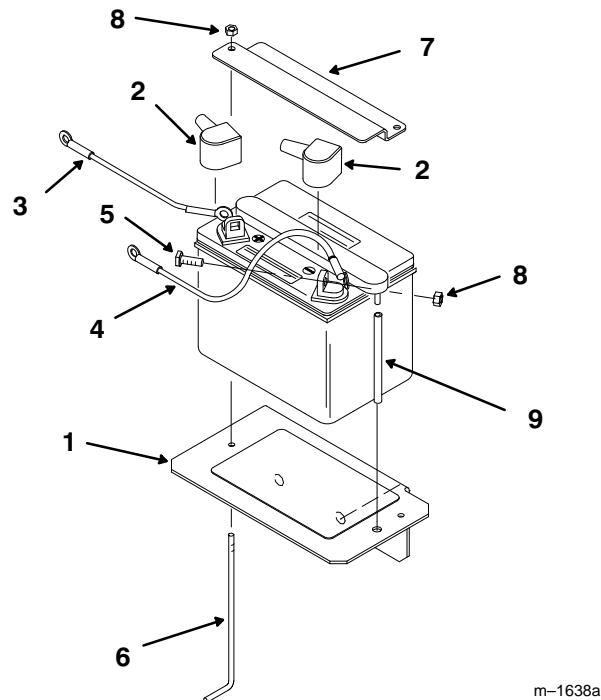

Figure 13
3. Position battery onto holder with terminal posts away from the engine (Fig. 13).
4. Slide the red terminal boot onto the red battery cable and the black terminal boot onto the black battery cable (Fig. 13).
5. Install the positive (red) battery cable to positive (+) battery terminal and the negative battery cable to the negative (-) battery terminal and secure with carriage bolts and locknuts (Fig. 13).
6. Mount battery to holder with (2) support rods, a battery clamp and (2) locknuts. Position support rods in mounting holes (Fig. 13) Tighten locknuts so battery is held securely in position and will not slide. DO NOT OVERTIGHTEN.
7. Slide vent tube through hole, next to support rod, in battery holder (Fig. 13).